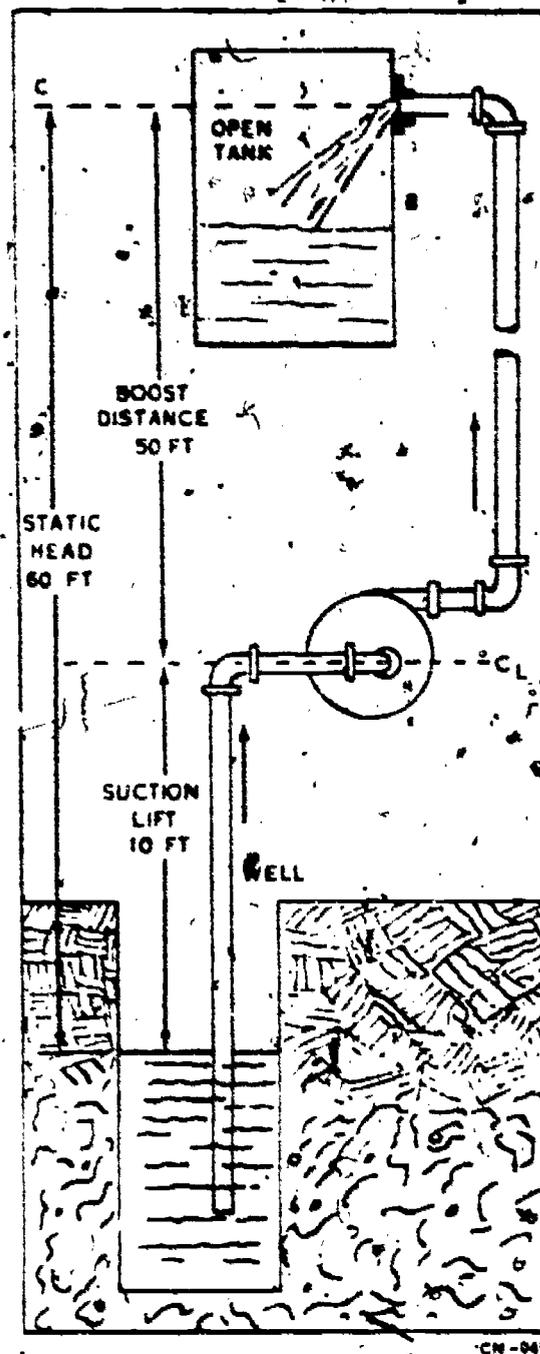

Figure 20. Static Head
**STATIC HEAD.** The purpose of any pump is to raise water from one level to another. A pump may do this by either lifting the water, pushing the water or a combination of both ways (see figure 20). A pump cannot efficiently lift water more than 22 feet. It can push water approximately 2 feet per psi developed. The distance from the pump down to the water is known as the suction lift distance. The distance the pump pushes the water above the pump is known as the boost distance. The static head is the sum of both the lift and boost distance. Let us assume we have a pump located at the top of a ten-foot well. We are going to pump the water into a tank 50 feet above the ground. The static head would be equal to the weight of water in a vertical pipe 60-feet high. The pump must overcome the static head pressure in order to move the water from the well to the tank.